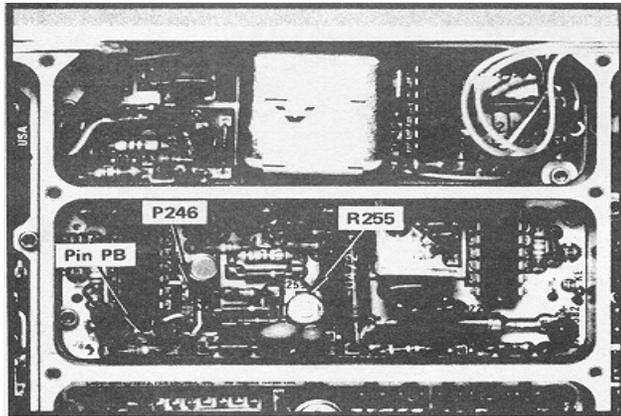
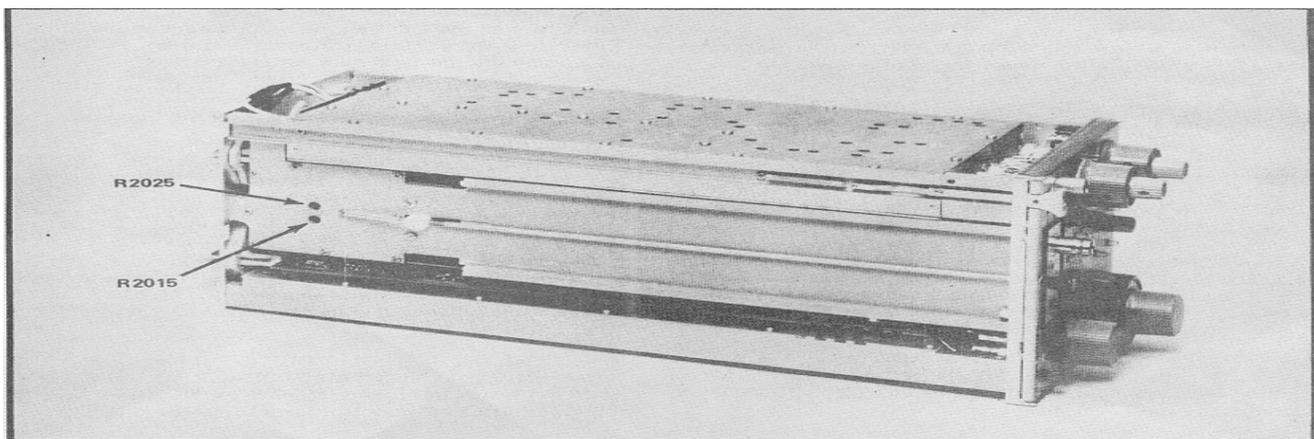
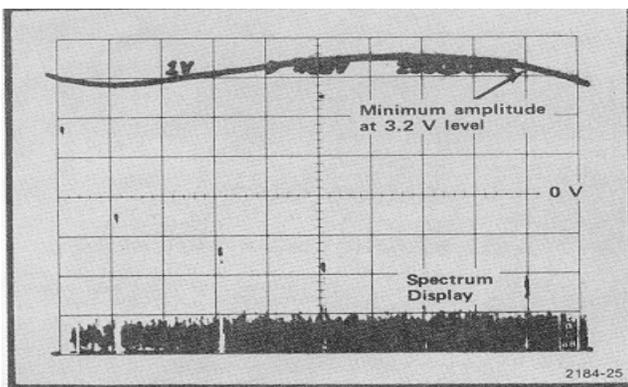

Fig. 4-9. Location of 1st LO Phase Lock test points and adjustments.
Fig. 4-10. Location of 1st LO adjustments.
Fig. 4-11. Typical response at pin PB when adjusting Sweep Offset and Gain.
d. Connect P246 (Fig. 4-9) from pin 2 to 3 then use the dc coupled amplifier to measure the dc voltage on P246. Adjust R255 (Fig. 4-9) for a voltage of 1.4 V. Reconnect jumper P246 from pin 1 to 2.
e. Connect the In put of the vertical amplifier through a test probe to pin PB (Fig. 4-9) on the 1st LO Lock board. With the FREQUENCY SPAN/DIV at MAX position, adjust the Sweep Offset, with R2015 (Fig. 4-10), for a voltage of 3.2 V at pin PB.
f. Now adjust the Sweep Gain, with R2025 (Fig. 4-10), for minimum signal amplitude as illustrated in Fig. 4-11. Repeat the Sweep Offset and Sweep Gain adjustments until minimum peak-to-peak signal amplitude is obtained with a dc level, at pin PB, of 3.2 V.
The 1st LO frequency must be nearly correct to obtain the proper waveform from the 1st LO lock. If this waveform cannot be obtained, set the FREQUENCY SPAN/DIV to MAX, Display Mode to 10 dB/DIV, and RESOLUTION to 30 kHz. Note the position of the 0 Hz start spur. Now, adjust R2015 and R2025 (Fig. 4-10) to position the 0 Hz start spur under the first graticule line. **If the lock is working, there should be a slight hesitation as the 0 Hz start spur is tuned past the fit graticule line. Once the 0 Hz start spur is in the correct position, a usable waveform should be obtained from the 1st LO lock.**